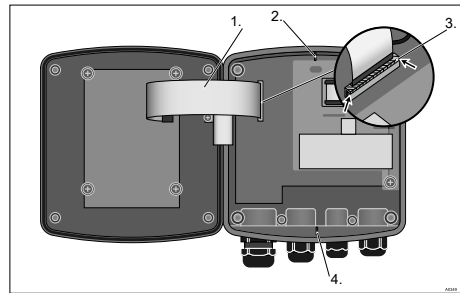

Fig. 36: Loosening the ribbon cable
The base of the ribbon cable is firmly soldered onto the PCB. The base cannot be removed. Open the base lock (3) to loosen the ribbon cable, see Fig. 36